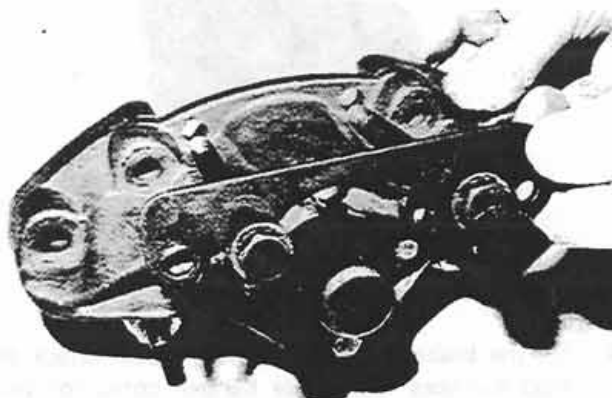

Figure 21:
9. Insert the pins (already intact with the bridge plate) through the two innermost holes of the piston side assembly. The bridge plate will fit in only one correct position; its contours match those of the piston side housing. The threaded ends of the pins will be on the same side as the carrier side casting (Fig. 21).